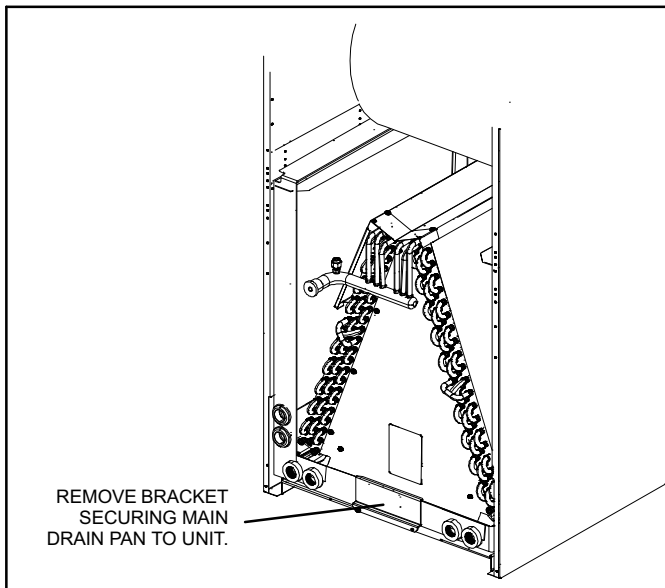

Figure 4. Remove Main Drain Pan Mounting Bracket (-018 through -036)
2. Remove bracket(s) securing pan(s) to unit as illustrated in figures 4 and 5.